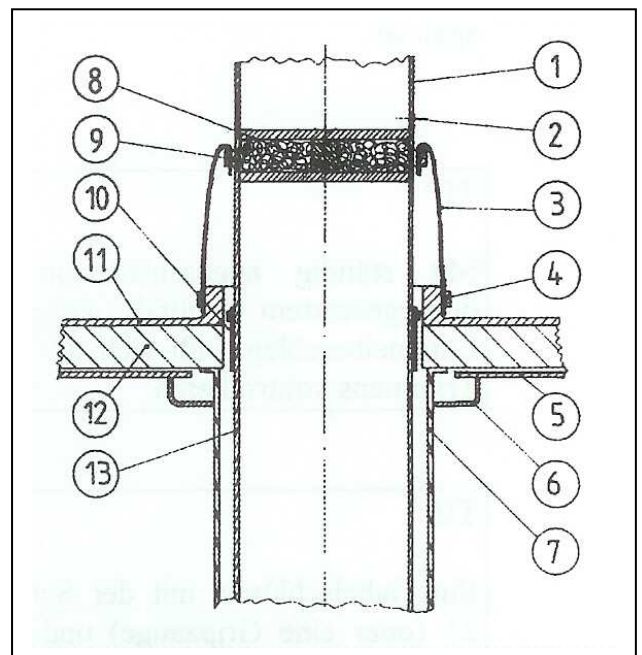

Fig 9 Mast leadthrough
Care is required when fitting the mast collar each time the mast is stepped, as any mistake will result in leaks around the mast. Fig. 9 illustrates the arrangement. The mast is sealed off inside (8), and any water that penetrates the mast drains off through the drain hole (2). A sealing strip seals the mast between the section and the collar. A supporting rubber gasket seals the mast between the section and the collar.